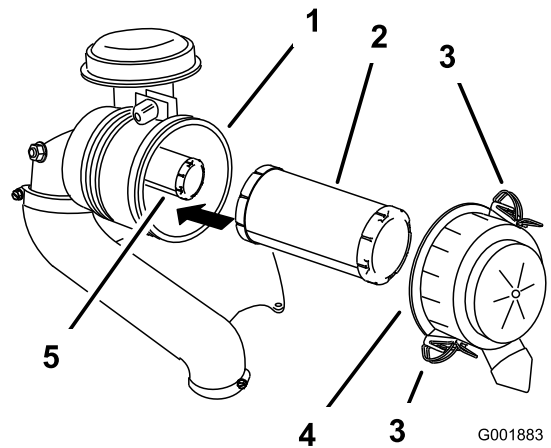

Figure 42
5. Gently slide the primary filter out of the air-cleaner body (Figure 42).
3. Release the latches on the air cleaner and pull the air-cleaner cover off the air-cleaner body (Figure 42).
- If you are replacing the safety filter, carefully slide it into the filter body (Figure 42).
- Carefully slide the primary filter over the safety filter (Figure 42).
- Install the air-cleaner cover with the side indicated as **up** facing upward and secure the latches (Figure 42).